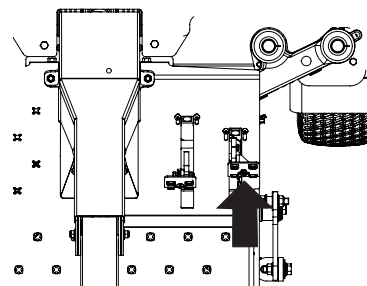

Fig. 29
1. Slowly push the reverse drive pedal forward. The mower will start to move in the reverse direction (Fig. 29).